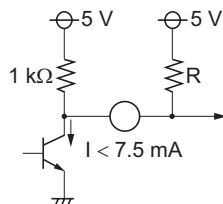

Figure 1
4. The terminal of H, V output pin are shown as Figure 1. It is possible to reduce rise time by insert the resistor between V_{CC} line and H, V output pin, but set the value of resistor in order that the current is under 7.5 mA. Setting the value of R is more than 2 kΩ as shown in Figure 1.